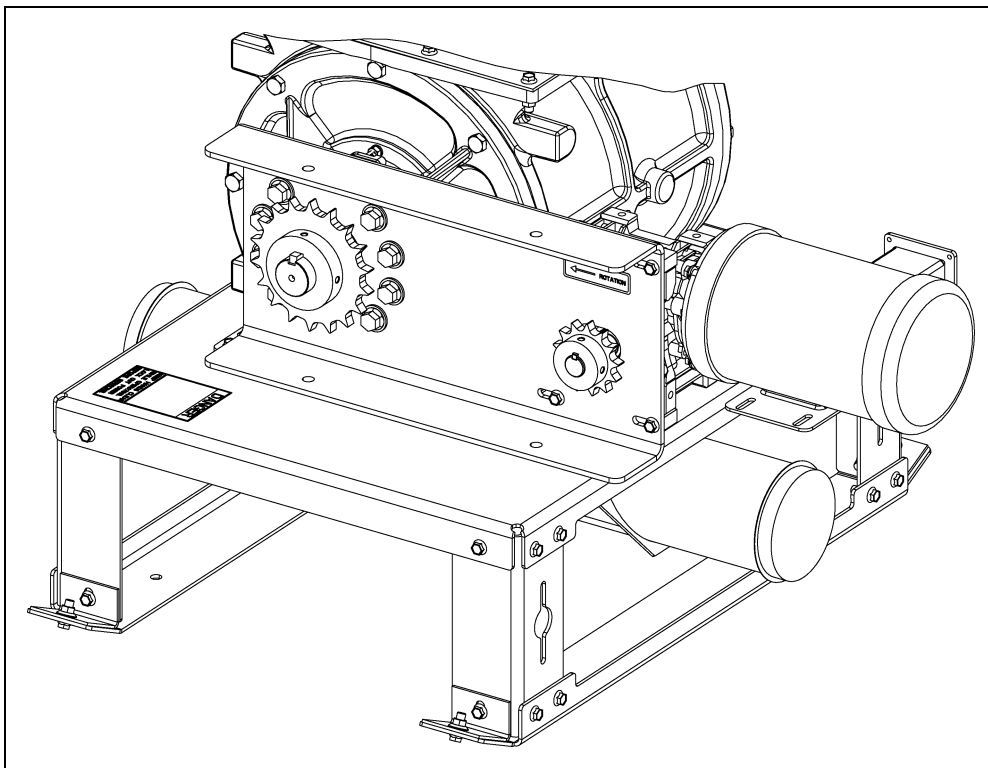

Figure 7I
8. Using four (4) 5/16" x 3/4" flange head bolts, mount the motor to the airlock gearbox. Place the specified sprocket on to the airlock shaft and align to sprocket on gearbox. (See Figure 7I.)